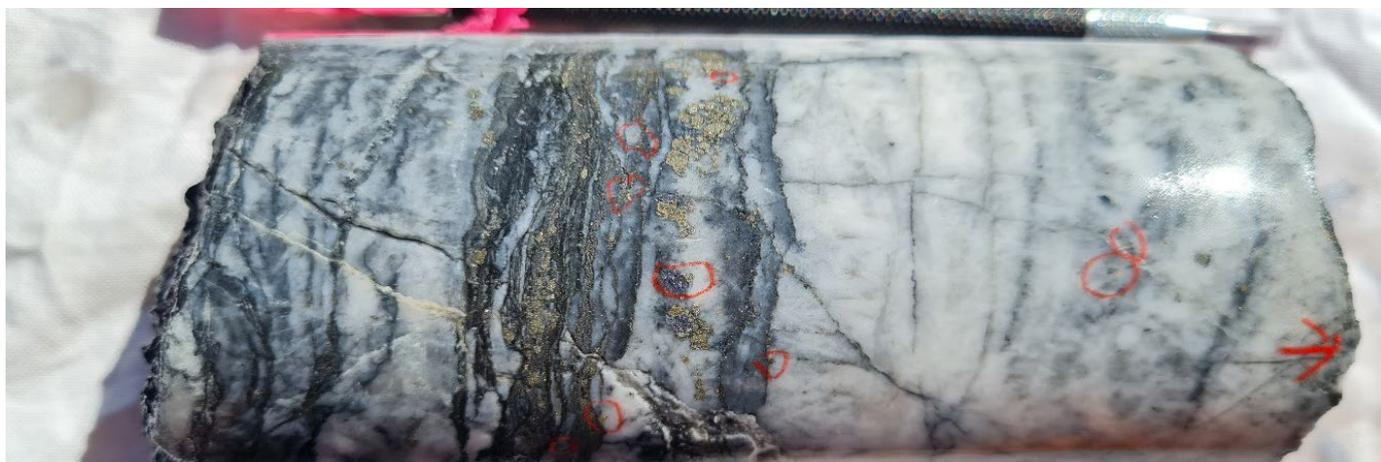

Figure 1: DD Core from the NBD0005 containing visible gold at approximately 97m depth
- Additionally, MHC recently intersected visible gold in diamond drilling from hole NBD0005 (Figure 1) that was able to be orientated in parts. This has allowed MHC to gather vital data on the structural controls on mineralisation at New Bendigo
- Diamond drilling (DD) was planned to target mineralisation at “Main Zone”, down plunge of the higher-grade mineralised intercepts, that has returned:
Drilling recently intersected visible gold in diamond core that extends for ~20cm and is associated with laminated quartz veining within a broader altered interval in hole NBD0005 (Figure 1). The intersected vein was able to be orientated with a reasonable degree of confidence, allowing MHC to gather vital data on the structural controls on mineralisation at New Bendigo. The orientated core returned from NBD0005, is the first core to be successfully drilled and orientated through the high-grade part of the system, with previous drilling either not intersecting the higher-grade component or not being able to be orientated due to low competency of the core.